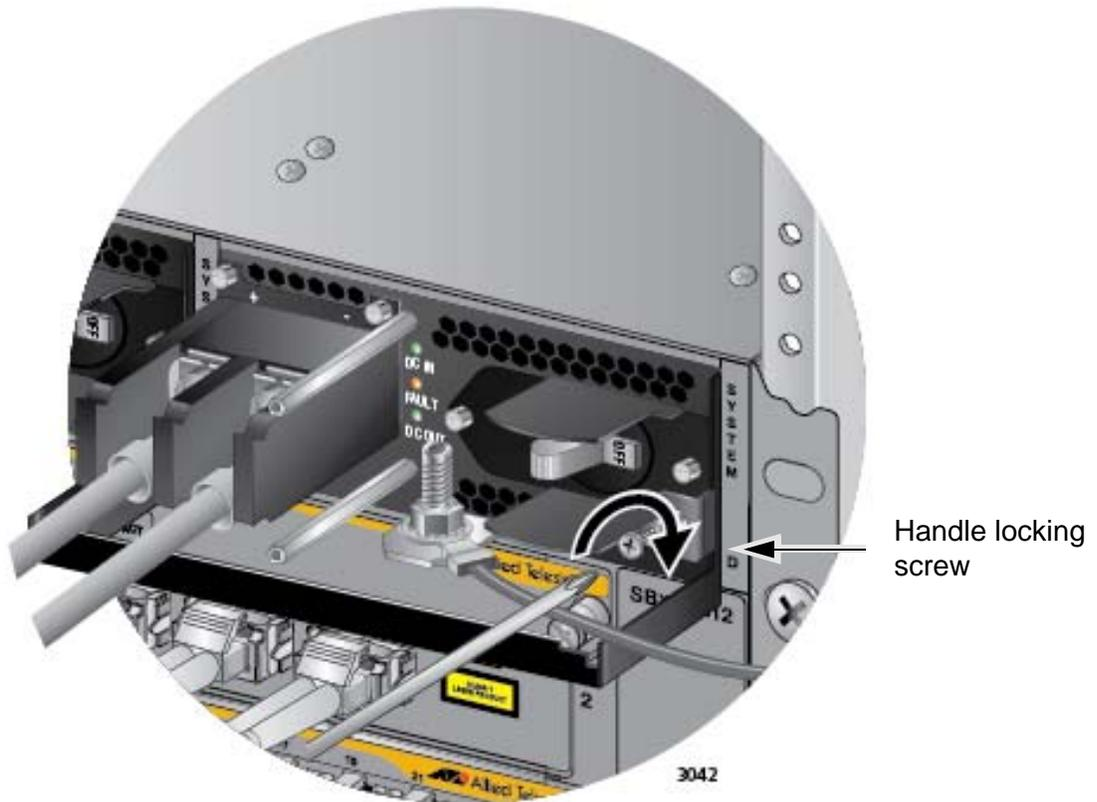

Figure 136. Tightening the Handle Locking Screw
8. With a #2 Phillips-head screwdriver, tighten the handle locking screw to secure the power supply to the chassis. See Figure 136 on page 203.